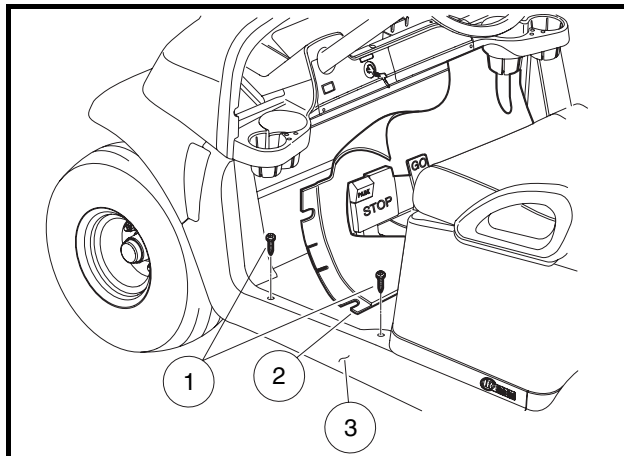
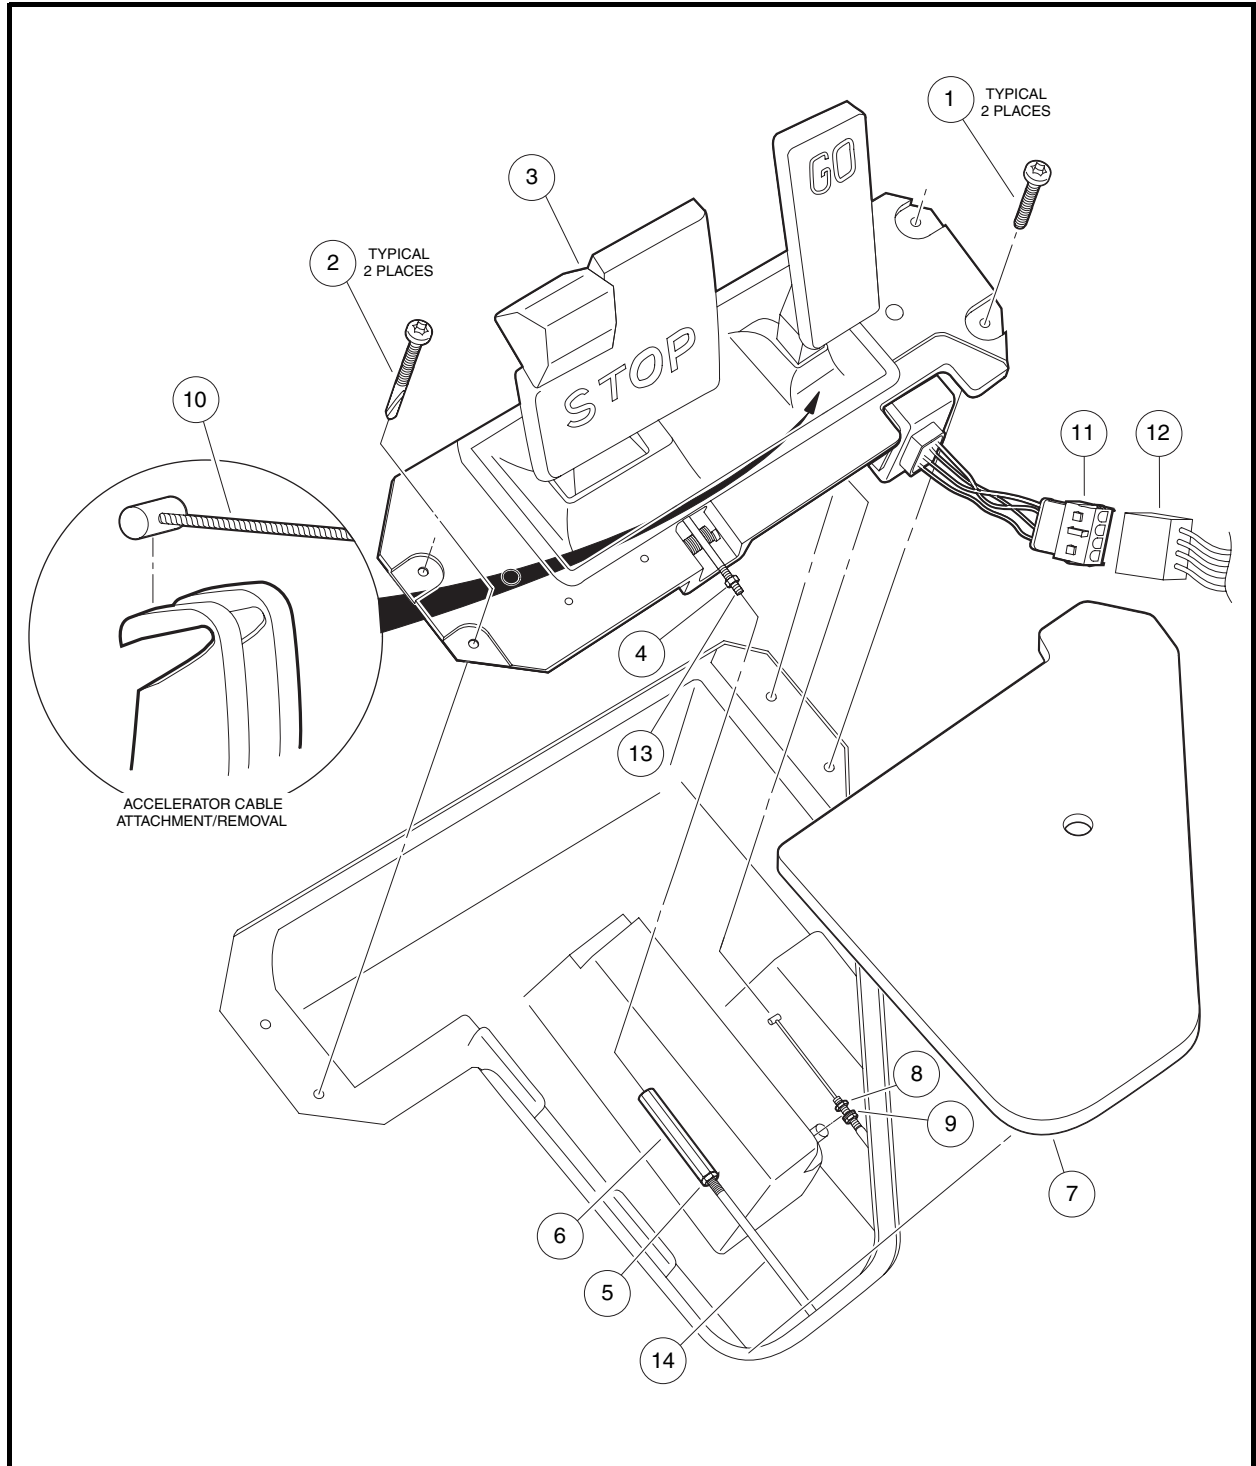

Figure 5-1 Pedal Group Access
Figure 5-2 Pedal Group
2. Remove screws (1). Pull floor mat retainer (3) away from the vehicle (**Figure 5-1, Page 5-1**).
3. Pull floor mat (2) over the pedal group to gain access to the pedal group hardware.
4. Lift off cover plate (7) (**Figure 5-2, Page 5-2**).
5. Loosen jam nuts (4 and 5) on each side of turnbuckle (6).
6. Nut (4) has a left-hand thread.
1. Connect the end of the accelerator cable to the pedal group (Figure 5-2, Page 5-2) See following CAUTION.
2. Connect the GCOR connector (11) to the wire harness (12) (Figure 5-2, Page 5-2). It will only fit together in one orientation.
4. Position the pedal group in the vehicle and secure it with two screws (2) on the driver side and then two screws (1) on the passenger side. Tighten the driver side screws (2) to 12 ft-lb (16.3 Nm). Tighten the passenger side screws to 5 ft-lb (6.8 Nm).
5. Remove the turnbuckle (6) and apply Loctite 242 to the threaded ends of both the rod from the pedal group (13) and the brake actuator rod (14). Connect the rods using the turnbuckle (6). Ensure the ends of the brake cables do not slip out of the brake equalizer during this procedure.
7. Place floor cover plate (7) over the floor opening (**Figure 5-2, Page 5-2**).
8. Reinstall the floor mat (2) over the pedal group. Make sure tabs on floor mat sides are beneath the sill (3). Tighten screws (1) to 53 in-lb (6 N·m) (**Figure 5-1, Page 5-1**).